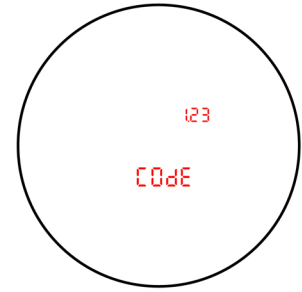

Figure 28
2. Short press the Menu button to scroll until the Code Firmware option screen is displayed. In Figure 28, Code 123 is used as an example.